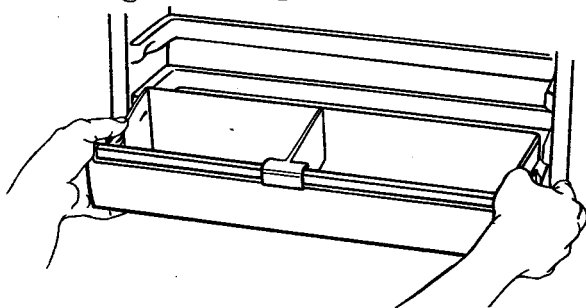

Figure 18
- Push lock tabs toward center with your thumbs and forefingers. See Figure 18.